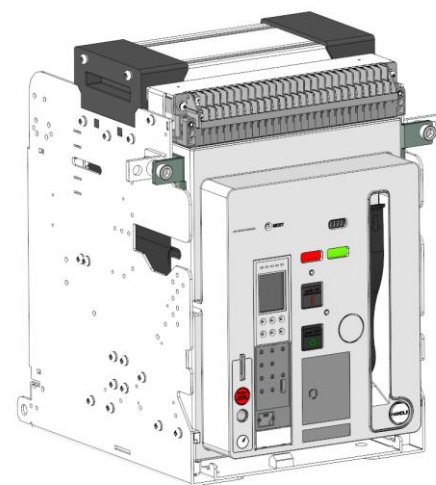

FIG 6
5. After checking ACB BODY position "Connected", 2- bolts with big head must be mounted at the both side indicated position by using racking handle like below fig 6, 7.
6. In order to draw out the ACB from the cradle, at first please make sure that the upper 2-bolts [fig6] placed both side of the cradle have to be unscrewed by using handle. And then do the drawout operation. If you do operation without removing bolts, ACB will be broken.